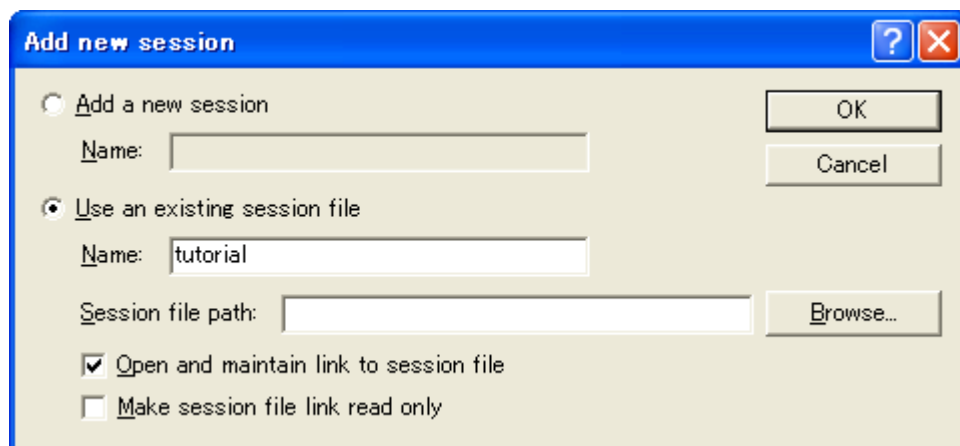

Figure 4.21 [Add new session] Dialog Box
2. Click the [Add...] button to display the [Add new session] dialog box (figure 4.21).
In the list box that is circled in figure 4.21, select the session file name including the character string that has been set in the [Target name] text box in figure 4.9, [New Project –8/9– Setting the Debugger Options] dialog box. The setting for using the emulator has been registered in this session file.